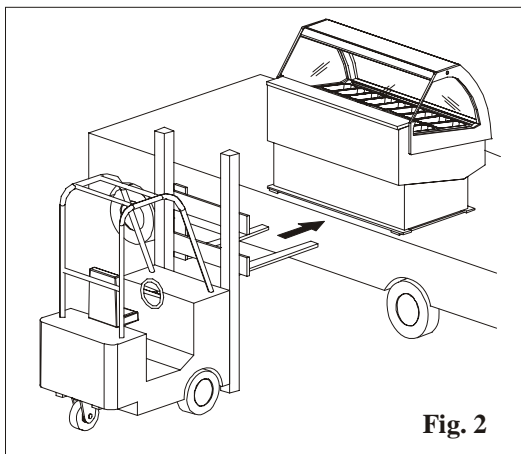

Fig. 2
- Make sure that the display cabinet is in perfect equilibrium on the forks before lifting it (fig. 2).